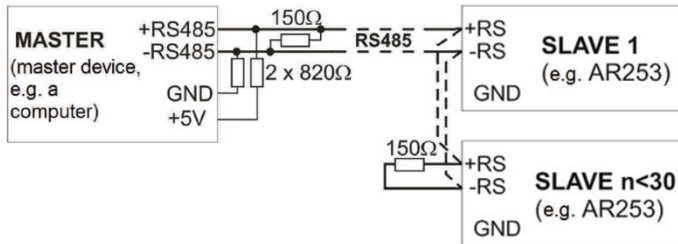

Fig. 12. Pictorial diagram of the RS485 network
- termination and polarizing resistors when the MASTER is at the start of the line (Fig.12):